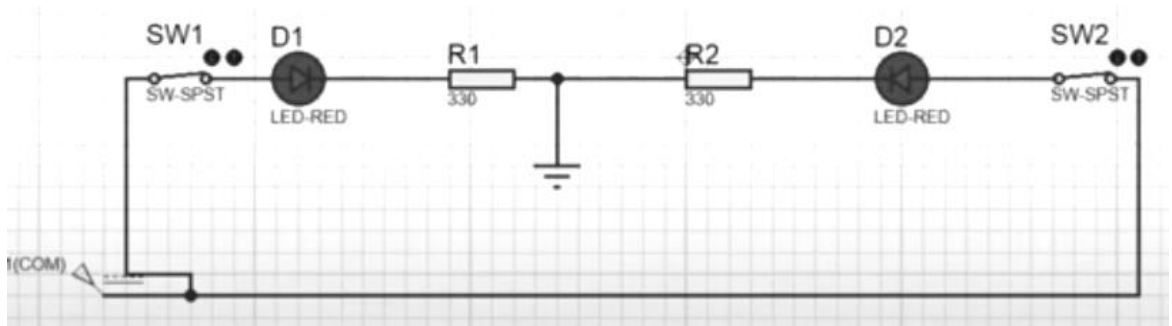

Fig 1.8: Full duplex
1. Connect the electrical circuit as shown in fig 1.8